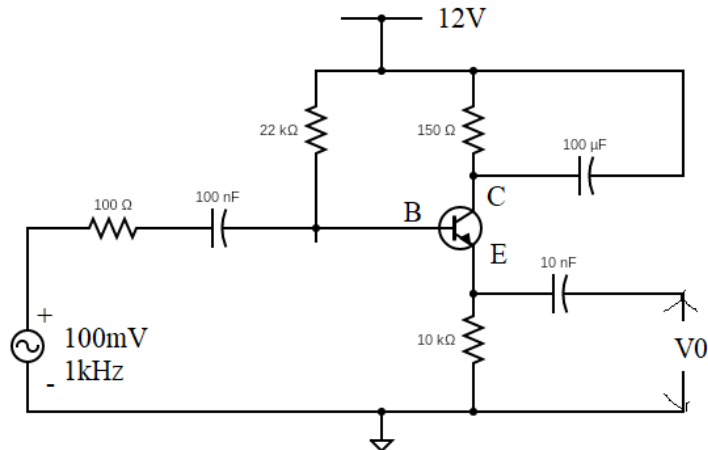

Figure 10.2: Circuit Diagram for Common Collector amplifier
1. Connect the circuit diagram as shown in figure 10.2.